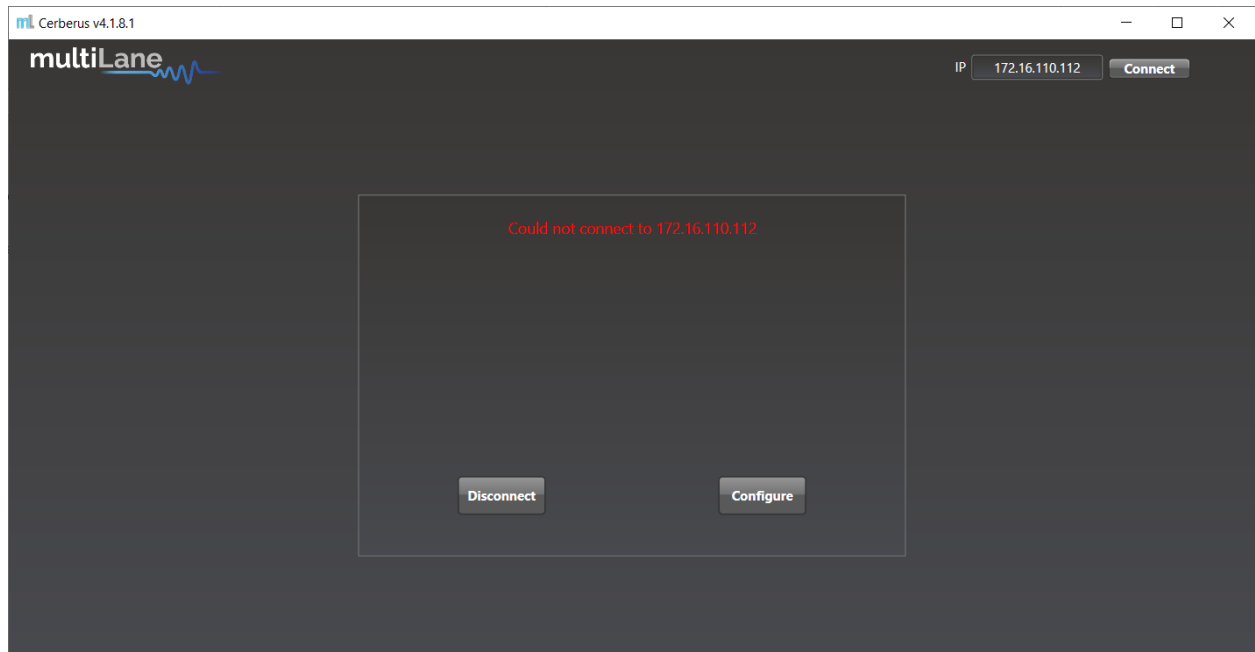

Figure 3: Connection failure notification.
- In the case of a connection failure, a pop-up message will appear indicating a connection error (Figure 3).